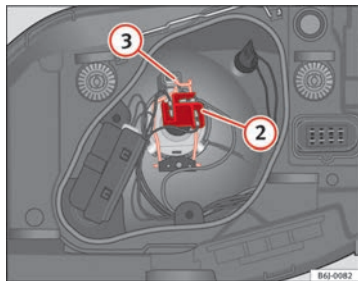

Fig. 145 Dipped beam/
- Remove the connector ⇒ fig. 145 ② from the bulb.
- Unclip the retainer spring ⇒ fig. 145 ③ pressing inwards to the right.